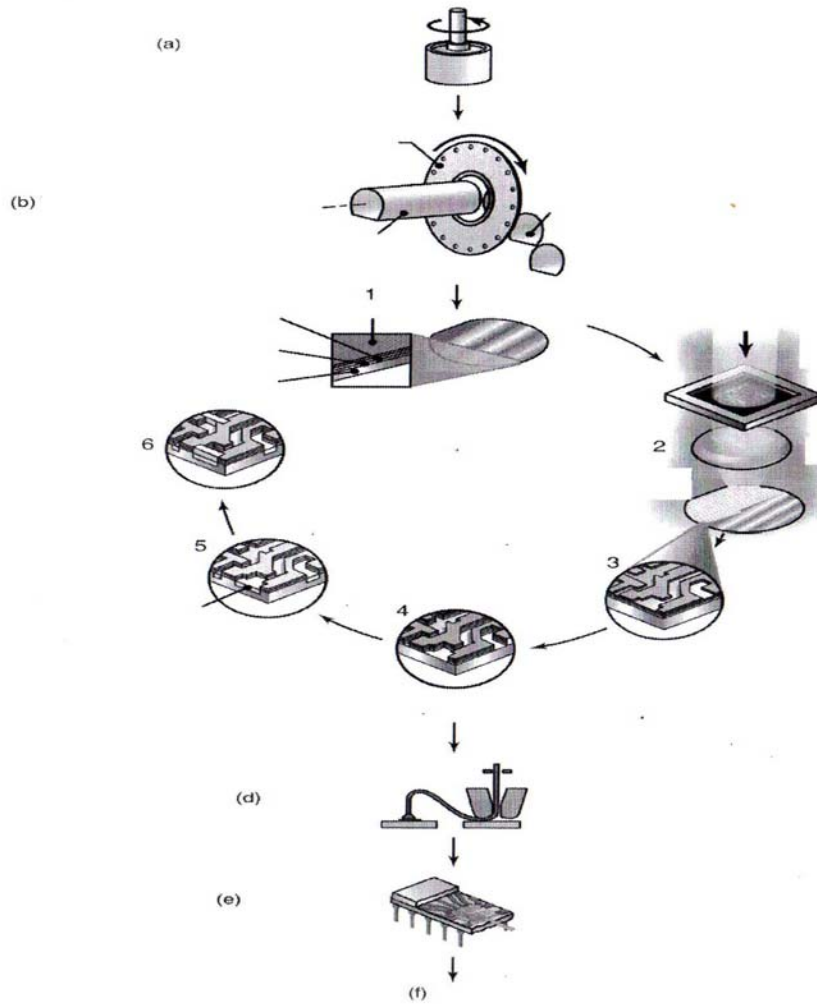

Figure Q4[b]
- [b] Figure Q4[b] summarizes the basic sequence for the fabrication of microelectronic devices and integrated circuits (IC). Complete the descriptions with meaningful notes onto it to clarify all the fabrication process involved completely.**